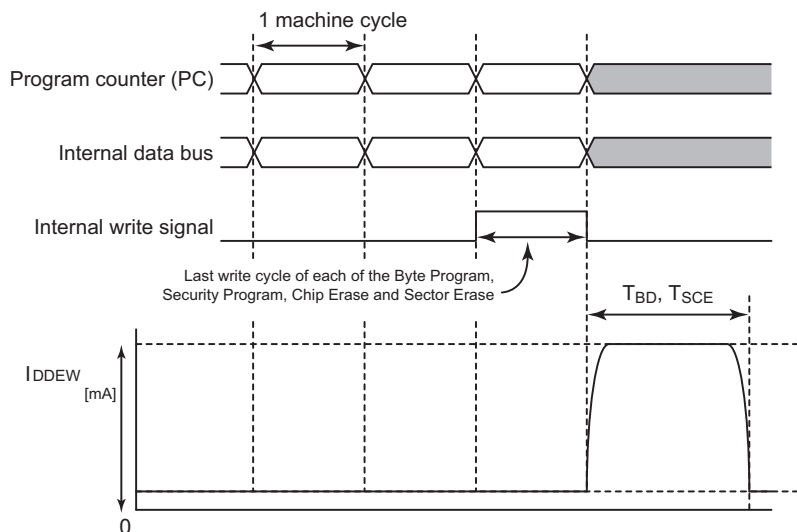

Figure 24-5 Current When an Erase or Write is Being Performed on the Flash Memory
- Note 8: If a write or erase is performed on the flash memory or a security program is enabled in the flash memory, an instantaneous peak current flows, as shown in Figure 24-5.